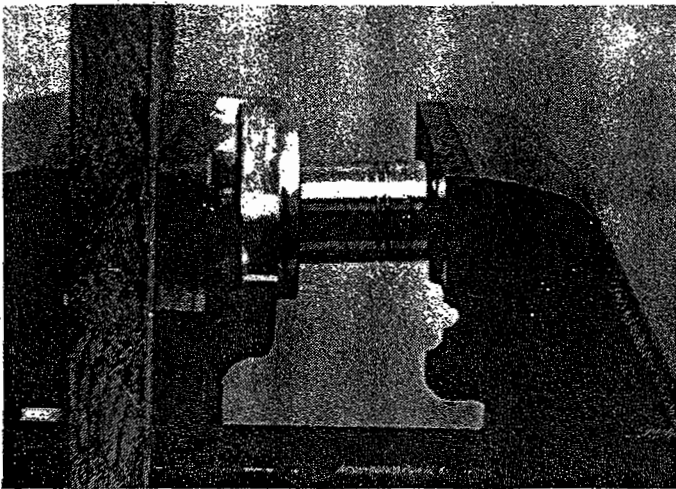

Fig. 5
8. Loosen the vise and remove the block of wood. Place a socket wrench that has an O. D. just slightly smaller than the seal bore against the seal. Tighten the vise against the socket and press the seal in until it just clears the snap ring groove in the seal bore. Remove the flange from the vise. (Fig. 5)